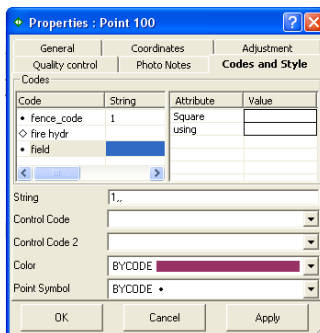

Figure 5-76. Delete Code from Point
6. To delete a code from being used in the point, right-click in the left panel and click **Delete** (Figure 5-76). Any attributes associated with the code are also deleted from the point.